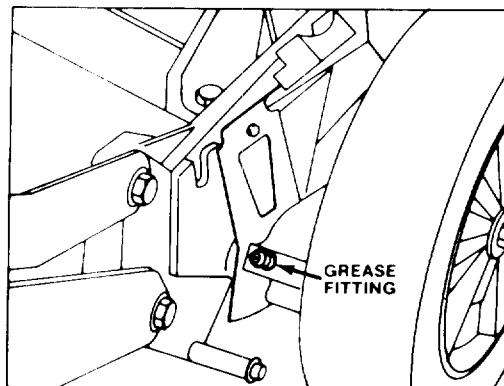

Figure 19
2. Move rear wheel height-of-cut levers to "C" setting. Wipe grease fittings with clean rag (Fig. 19). Install grease gun onto fitting and gently apply two or three pumps of #2 Multi-Purpose Lithium Base Grease.